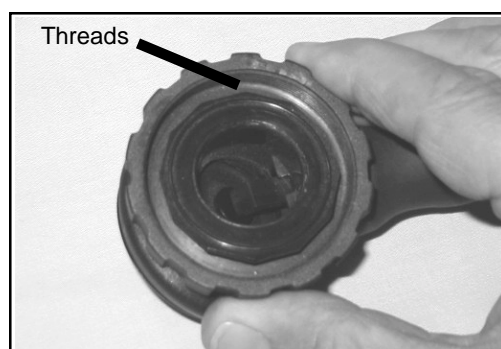
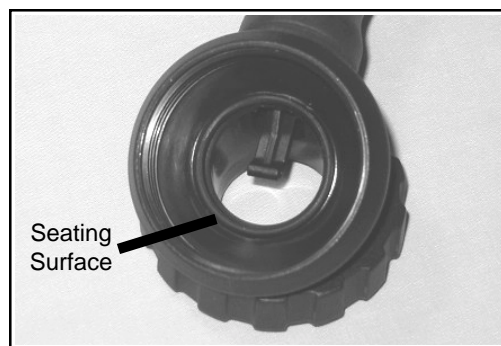

Fig. 1
Fig. 2
1. Clean and inspect the Nut portion of the UPPER HOUSING ASSEMBLY (4) for any signs of cracking or distortion, especially around the Threads (Fig. 1).
2. Remove the UPPER HOUSING CAP (1) by turning it counter clockwise.
3. Remove the EXHAUST VALVE SPRING (2) and examine it, checking for any signs of distortion or corrosion. Replace with new if found.
4. Remove the GASKET/POPPET ASSEMBLY (3). Discard and DO NOT attempt to reuse it.
6. Clean and examine the condition of the Exhaust Valve Gasket seating surface inside the UPPER HOUSING ASSEMBLY (4) for any nicks, scoring, or other signs of damage (Fig. 2). Replace with new if found.